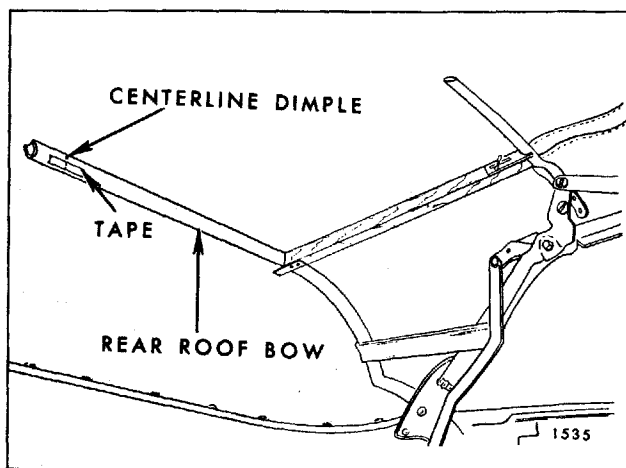

Fig. 6-24—Marking Rear Roof Bow
24. Along forward surface of rear roof bow install a 1" piece of tape at centerline dimple of rear roof bow. Using a pencil, mark centerline of rear bow on tape (Fig. 6-24).